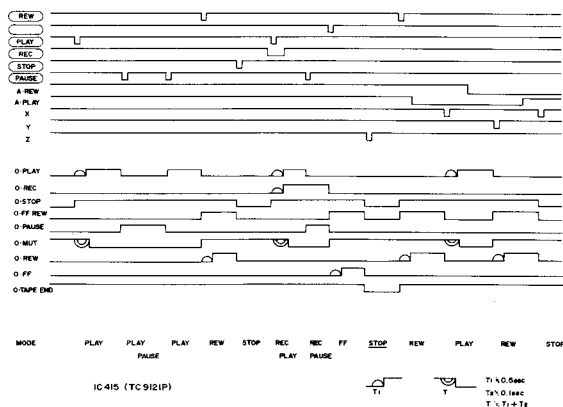

Figure 21-3
- Fig. 21-3 shows the operation timing chart of the IC415.